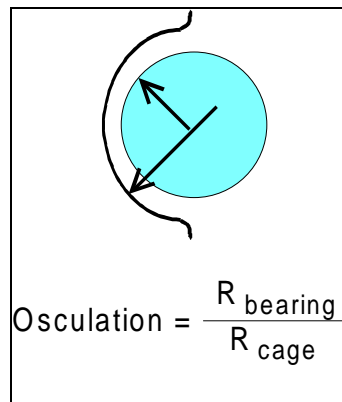

Figure 2. Osculation of bearing ($R = \text{Radius}$)
- A. Osculation: two levels of the ratio of the ball radius to the radius of the outer ring raceway. (See Figure 2.)